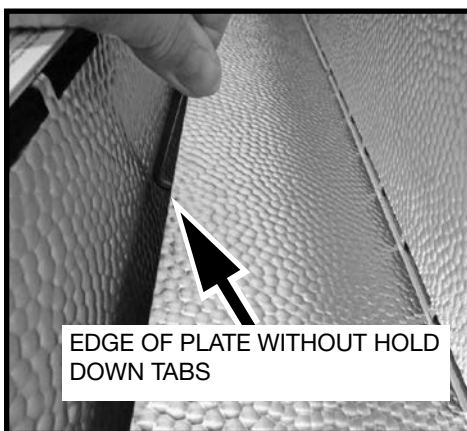

Figure 33: Removing rear decorative plate.
8. Once both end covers are removed, the rear decorative plate can be removed. One edge of the rear plate has 3 tabs which fit underneath the air vents. The opposite edge will need to be lifted first in order to slide the tabs from underneath the air vents (Figure 33).